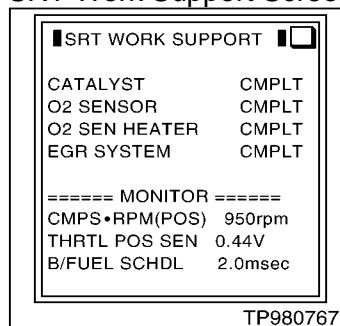

Figure 5
- a. Starting with the CONSULT **Engine** Menu, touch: SRT Confirmation, SRT Work Support, Main Signals. CKPS-RPM (POS), THRTL POS SEN, and B/Fuel SCHDL will automatically be selected as monitor items. (Figure 5)